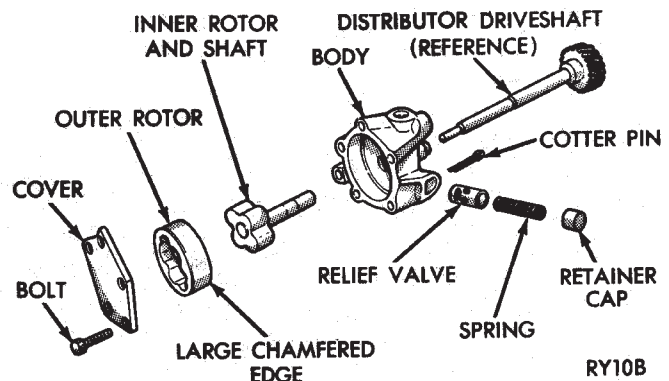

Fig. 58 Oil Pump
- (2) Remove oil pump cover (Fig. 58).
- (3) Remove pump outer rotor and inner rotor with shaft (Fig. 58).
- (4) Wash all parts in a suitable solvent and inspect carefully for damage or wear.